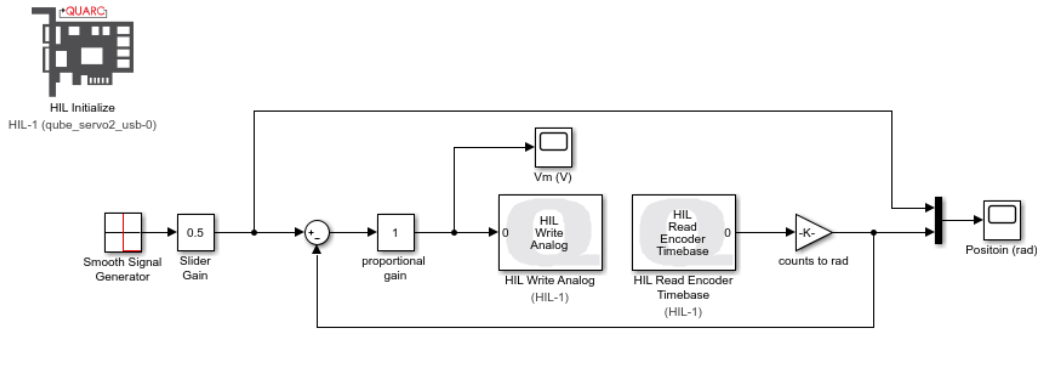

Figure 2.1: Simulink/QUARC model implementing a proportional position control on QUBE-Servo 2
The Simulink model shown in Figure 2.1 implements the proportional position controller describe in 1.3.
3. Open the Simulink diagram shown in Figure 2.1 (if supplied) or design your own.